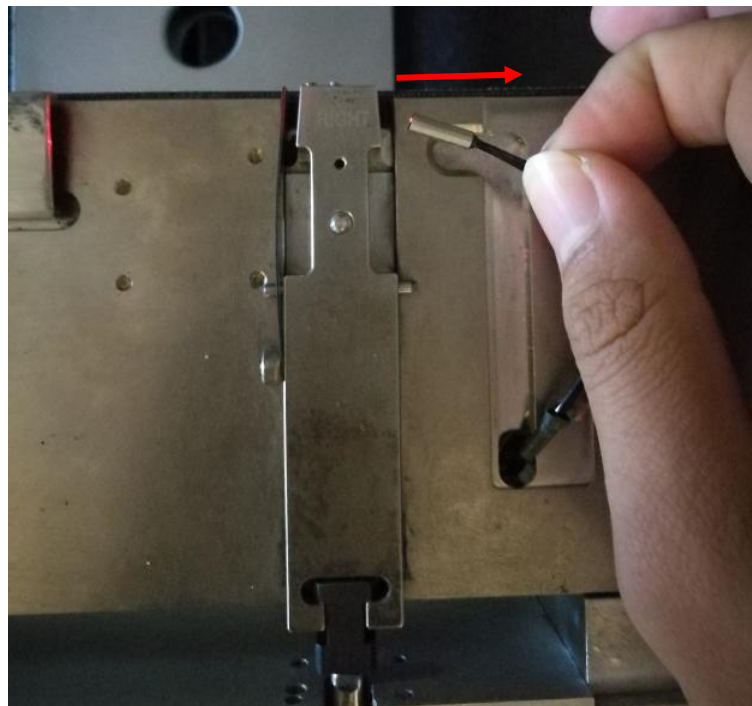

Figure 27 PIP Sensor Cable Removal
8. Remove PIP Sensor Cable as shown in Figure 27